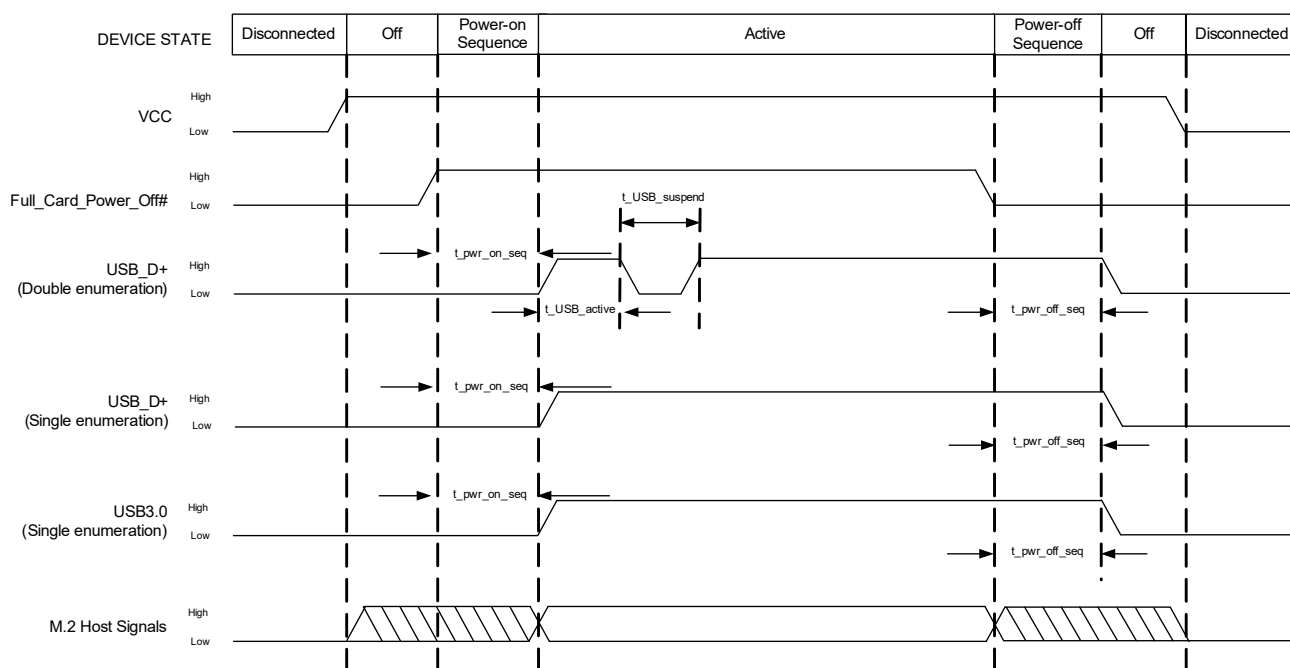

Figure 4-2: Signal Timing (Full\_Card\_Power\_Off#, and USB Enumeration)
Figure 4-2 describes the timing sequence for powering the module on and off.
- Double enumeration—As shown in Figure 4-2: